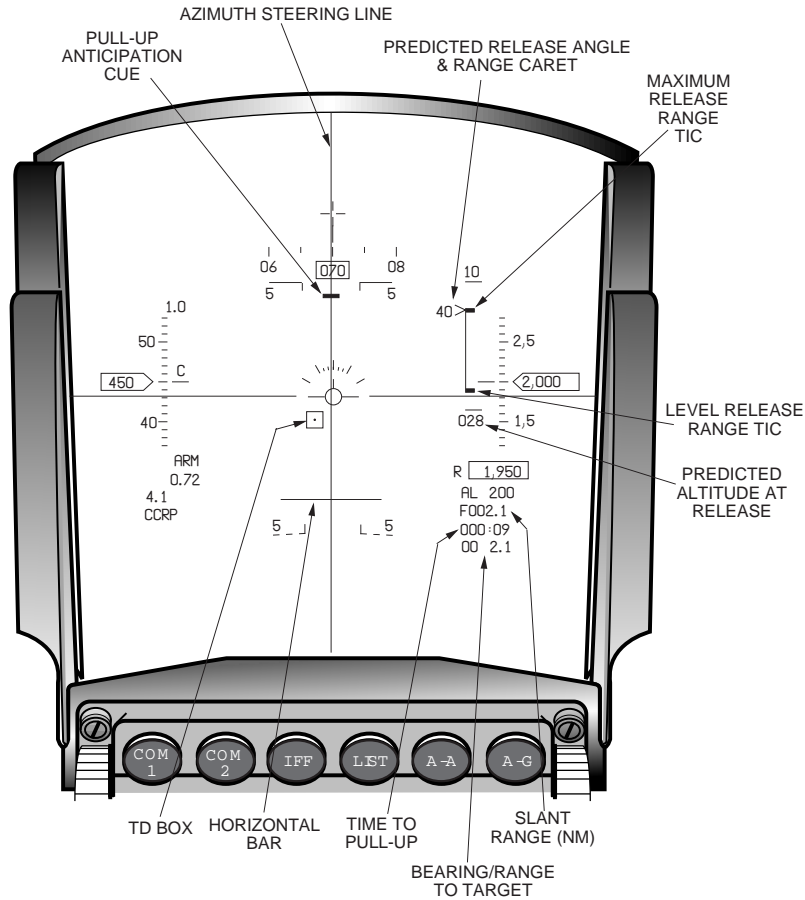

Figure 6-11 CCRP HUD Before Pull-Up
**Basic Operation:** Typically, the pilot navigates to the IP using the NAV mastermode. After selecting the target as the current steerpoint, he selects the A-G mastermode and the CCRP submode. The system then provides HUD aiming and steering symbology to the release point (Figure 6-11) and the GM radar cursor is positioned at the target position on the FCR format. Azimuth steering and time to go are displayed on both the HUD and the FCR format. Bearing and range to the target and a TD box positioned at the computed target position are displayed in the HUD. At any time during the approach to the target, the pilot can refine the target position on the GM radar by slewing the GM cursor if the target is a radar show target. If the target can be visually acquired, the pilot may also refine its position by slewing the TD box in the HUD.